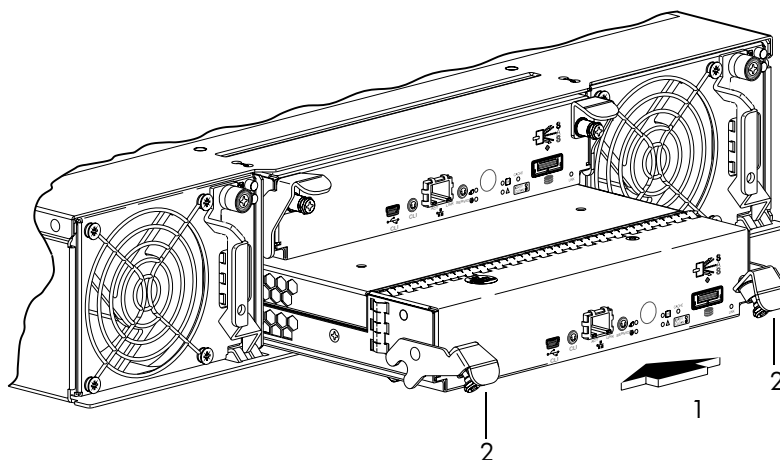

Figure 4 Inserting a controller module
1. Loosen the thumbscrews; press the latches downward (see Figure 4).
2. Slide the controller module into the enclosure as far as it will go (1).